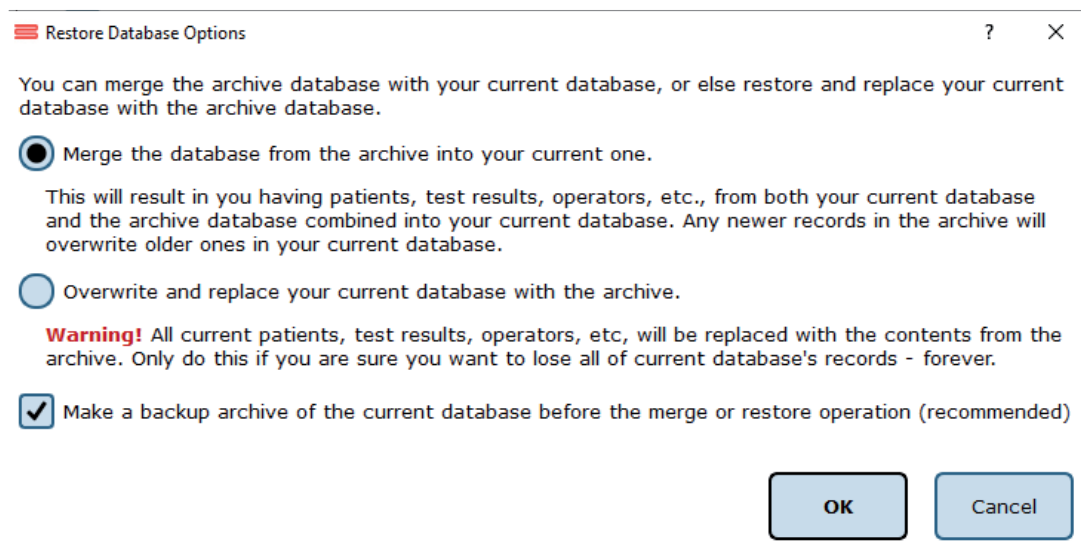

Figure 43: Merge/Archive Options
3. The program should default to merging, not restoring, an archive. Even so, ensure that the Merge circle is filled in as seen in Figure 43.